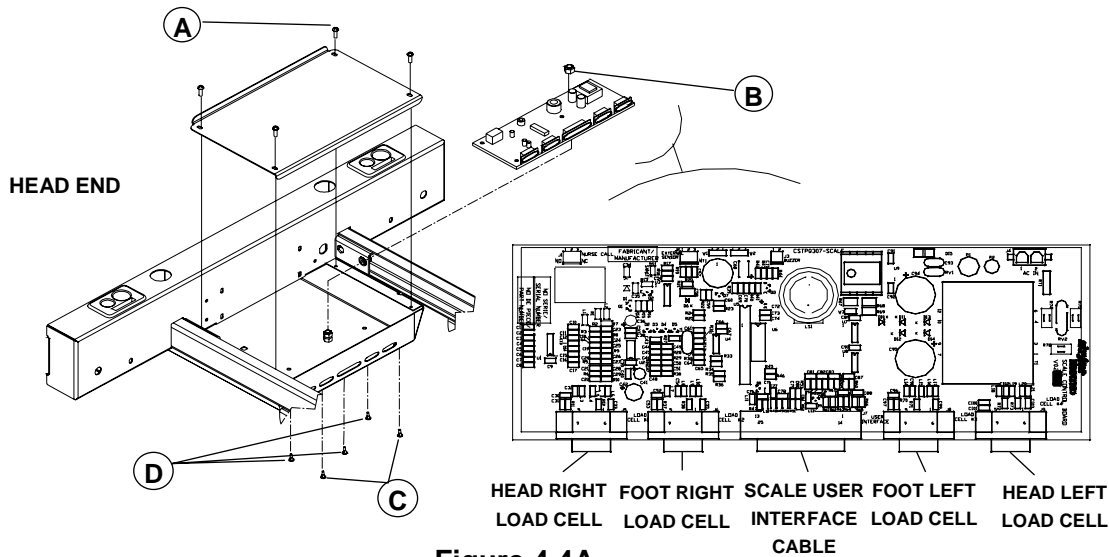

Figure 4.4A
- Using side cutters, cut the tip of the two front stand-off pins (C).
- Using needle nose pliers, compress the retaining clip of the three remaining stand-off pins (D) to disengage the board from the pins.
- Clip the board on the three remaining stand-off pins (D).
- Replace and tighten the ground locknut (B).
11. Connect the load cell cables to the PC Board connectors. See figure 4.4A on page 38 for the cables proper connecting position.